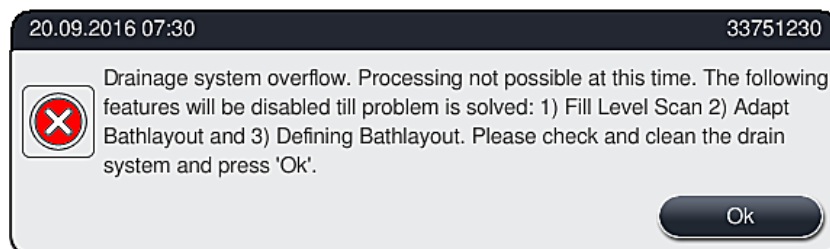

Fig. 117
Water drain system blockage (in the drainage sieve (→ "Fig. 97-1") or in the drain hose (→ "Fig. 8-1") can lead to rising water levels in the drain pan. As a result, a critical water level can be reached in the instrument. The user receives an error message (→ "Fig. 117") on the screen and an alarm sounds.
1. Open the instrument cover if the warning message appears (→ "Fig. 117").